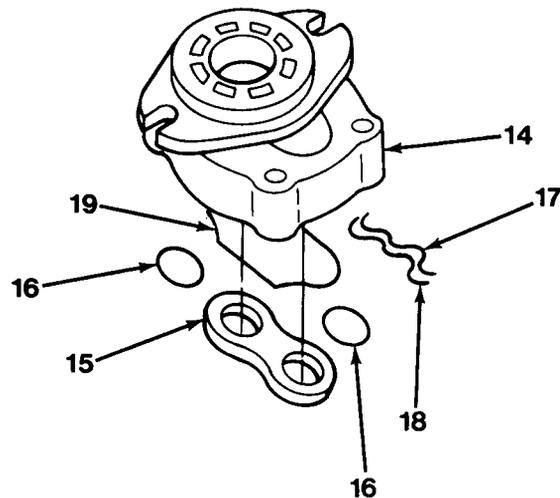

Figure 13-4
3. Remove two O-rings (16) from thrust plate (15, Figure 13-4).
4. Remove O-ring (17), back-up ring (18) and O-ring (19) from flange (14).